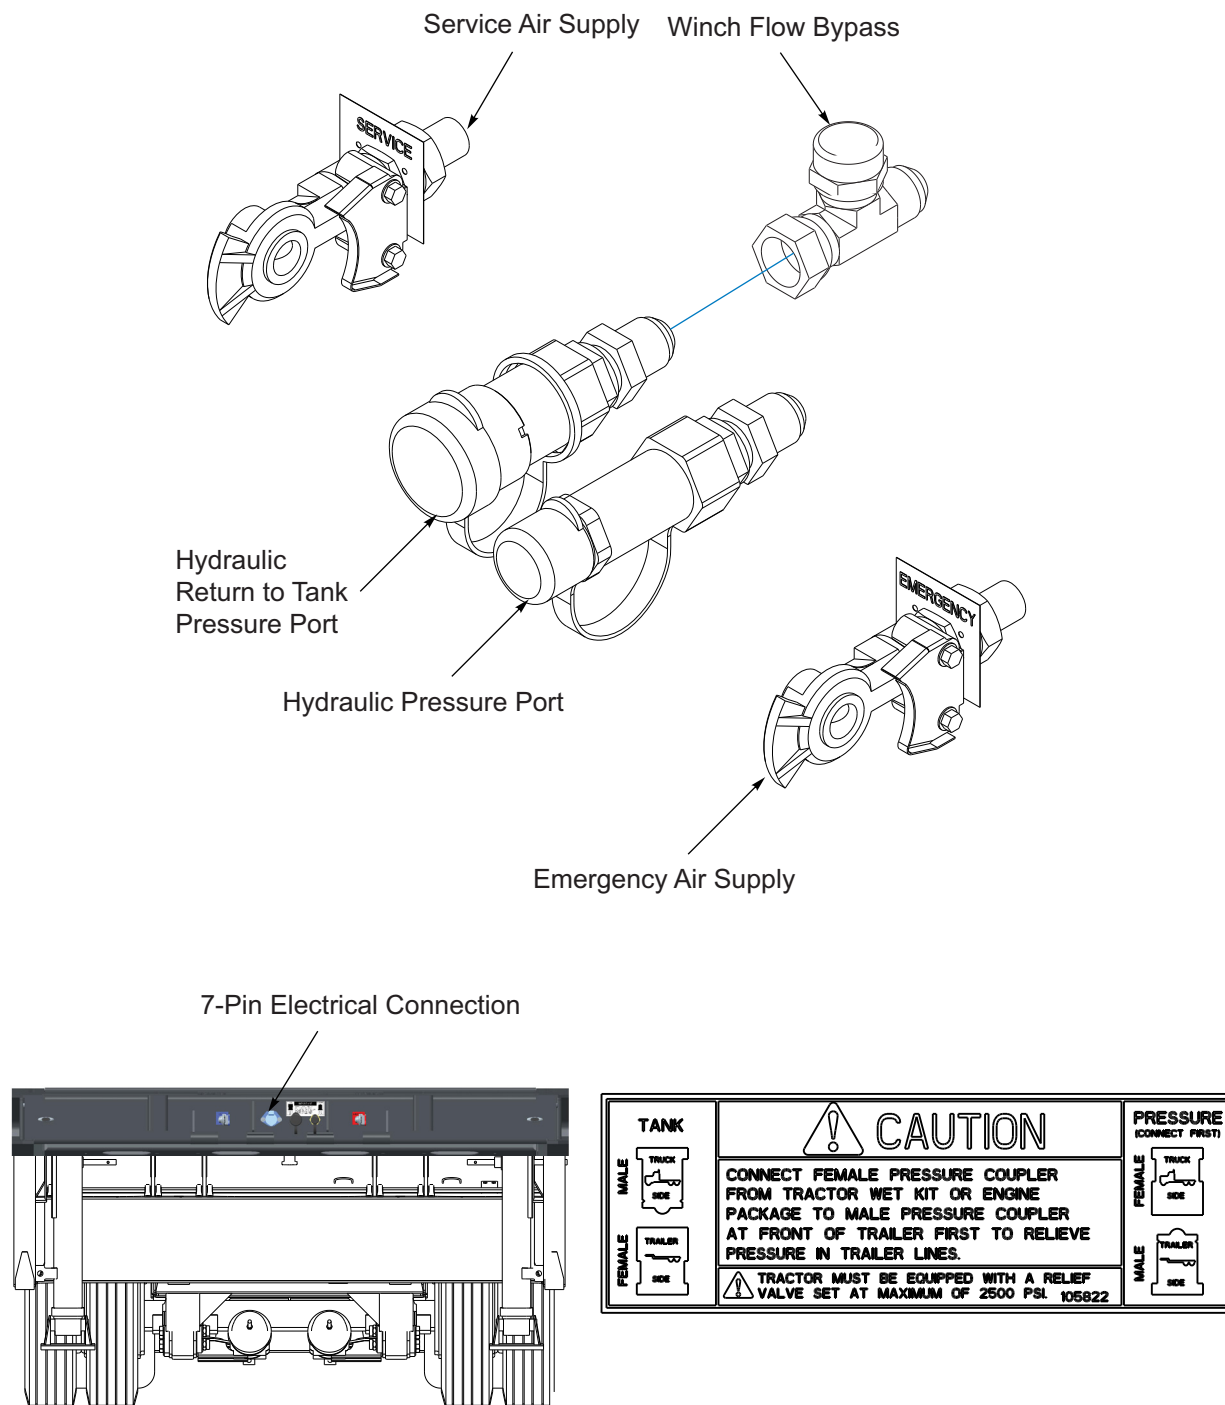

Figure 3-2: Service Hookups
3. Connect the service and emergency air hoses of the towing vehicle to their respective gladhand on the front of the semitrailer; red emergency line to the gladhand with the "EMERGENCY" tag, and the blue service line to the gladhand with the "SERVICE" tag (**See Figure 3-2.**) Chock the semitrailer wheels before activating the semitrailer air supply valve in the towing vehicle. Set the parking brakes.
1. Connect the towing vehicle 7-pole electrical plug to the electrical receptacle on the front of the semitrailer (See Figure 3-2.)